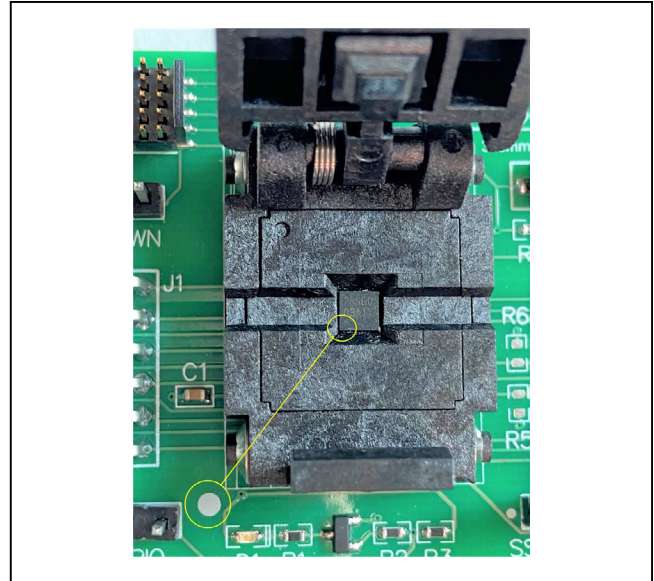

Figure 7. Orientation of the DS28S60 in Burn-In Socket
- a. Open socket and insert a DS28S60Q+ as shown in Figure 7. **Note:** Do not use the socket's pin 1 indicator. The pin 1 indicator is denotated on the PCB as a white dot and is located on the opposite side of the socket's marking.